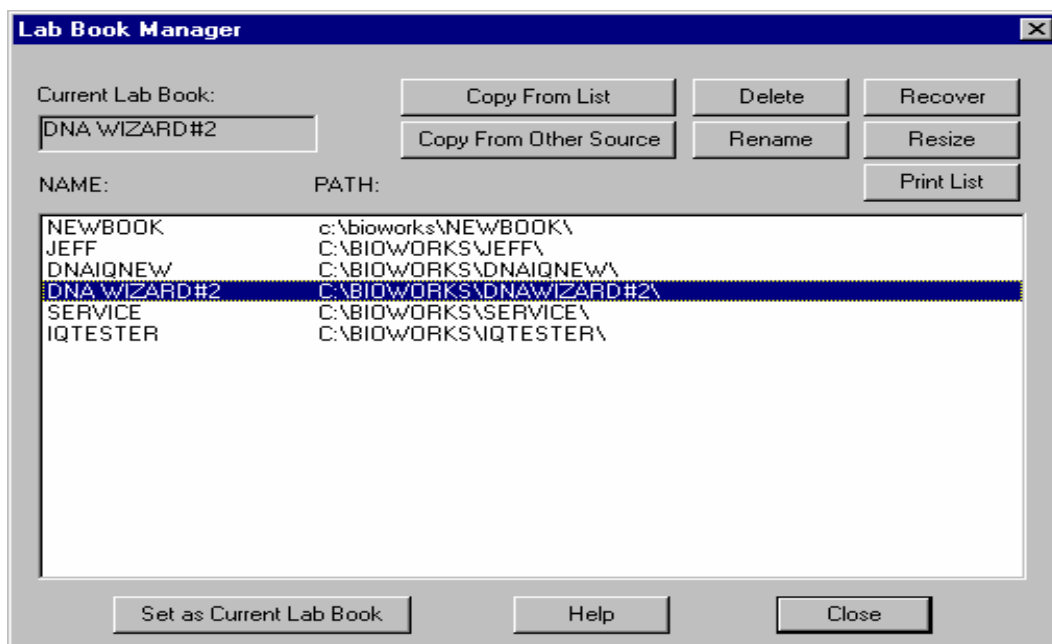

Figure 5. Lab Book Manager
- 5.4.7 A list of the Lab Books will be displayed as shown in Figure 5. Highlight the Wizard Lab Book and click the “Set as Current Lab Book” button. Close out the Lab Book Manager window.